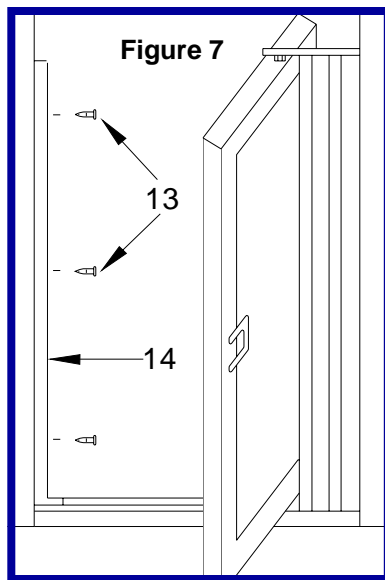
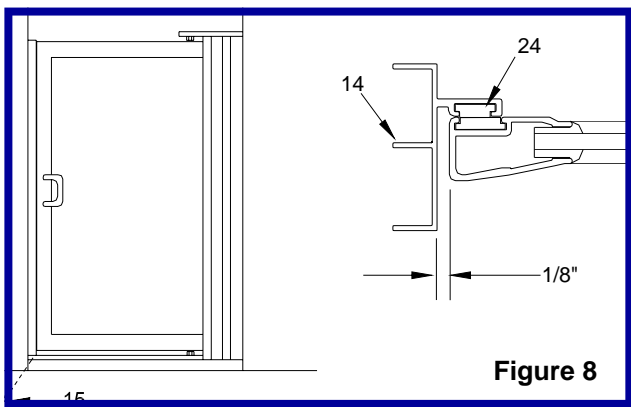

Figure 7
Figure 8
- Position strike jamb (14) on threshold, make sure threshold is even on curb.
- Using a 3/16" masonry bit, drill installation holes & install plastic wall anchors (12).
- Replace strike jamb (14), secure to wall with three #8x1 1/2" TH SMS (13). (See Figure 7)
- Anchor strike jamb (14) to threshold with one #6x1/2" PH SMS (15).
- Adjust door to opening & tighten both the bottom & top pivot bolts (7). (See Figure 8)